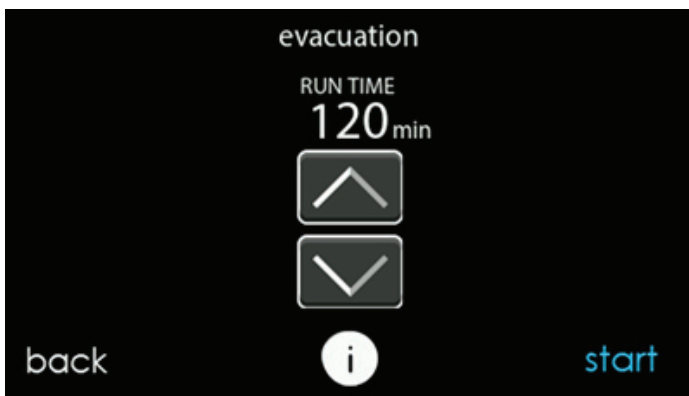

Fig. 24 – Evacuation Setup Screen
3. Set desired time period. Default time period for the procedure is 120 minutes. See Fig. 24.